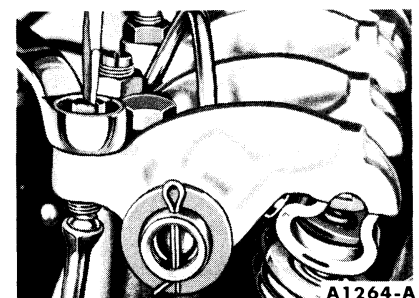
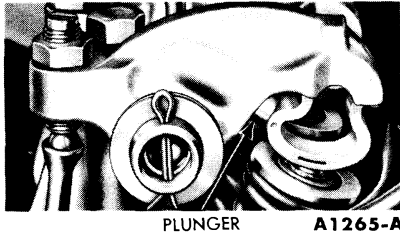

FIG. 5—Aligning Eccentric Mark
FIG. 6—Correct Position of Eccentric
4. Slowly turn the adjusting screw out until the adjustment mark on the eccentric is centered over the valve stem (Fig. 5). Torque the lock nut to specifications to lock the adjustment. The correct position of the adjustment mark is shown in Fig. 6.